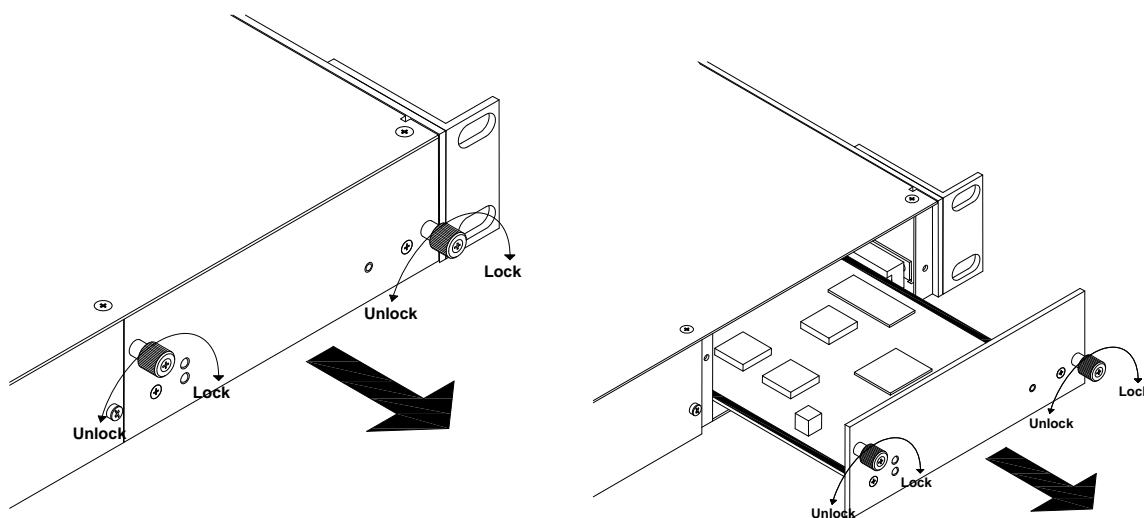

Figure 9. Ejecting a blade
2. Remove the blade from the rack as figure 9.